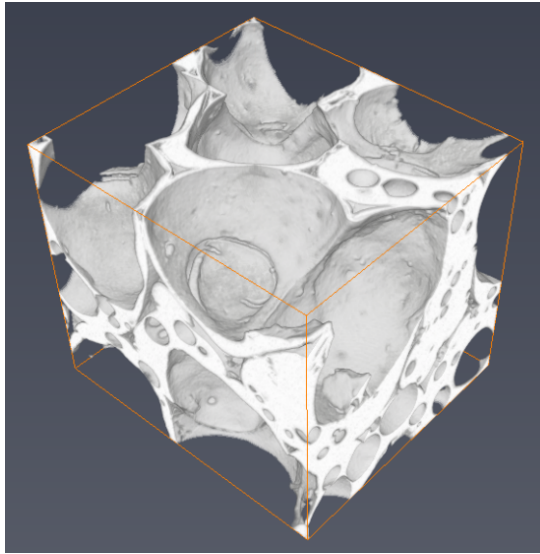

Figure 20.3: Original Data Display
1. Load the file `data/tutorials/PNM/Sponceram.am` and display it using the *Volume Rendering* module. Set the *Colormap* port max to `4590` to have a better rendering (see Figures 20.3 and 20.4 with *colormap* configured to hide the void phase).